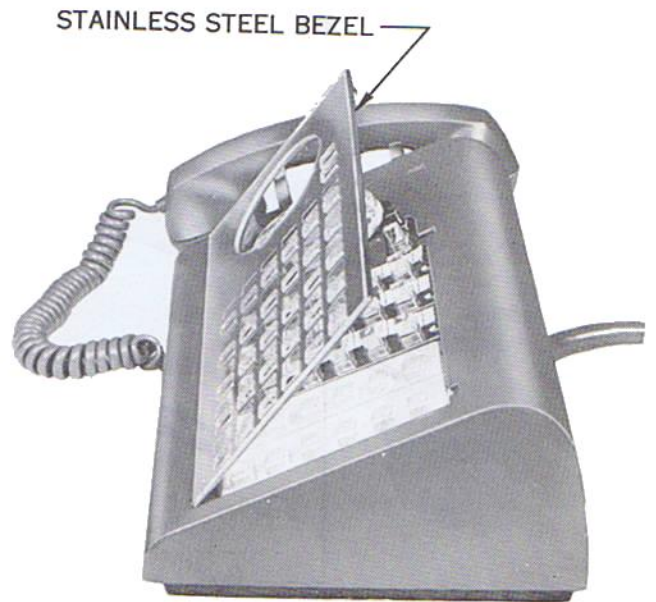

Fig. 13 - Removal of Bezel and Faceplate Assembly
8.01 To remove bezel assembly (Fig. 13):